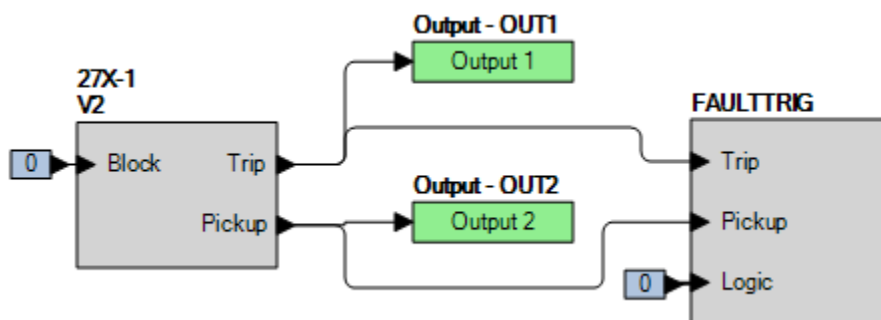

Figure 58-3. BESTlogicPlus Settings (V2 Mode)
- Step 2: Use BESTCOMS*Plus* to configure the BESTlogic*Plus* programmable logic shown in Figure 58-3.
- Step 4: Prepare to monitor the 27X-1 function operation. Operation can be verified by monitoring OUT2 (see Figure 58-3).